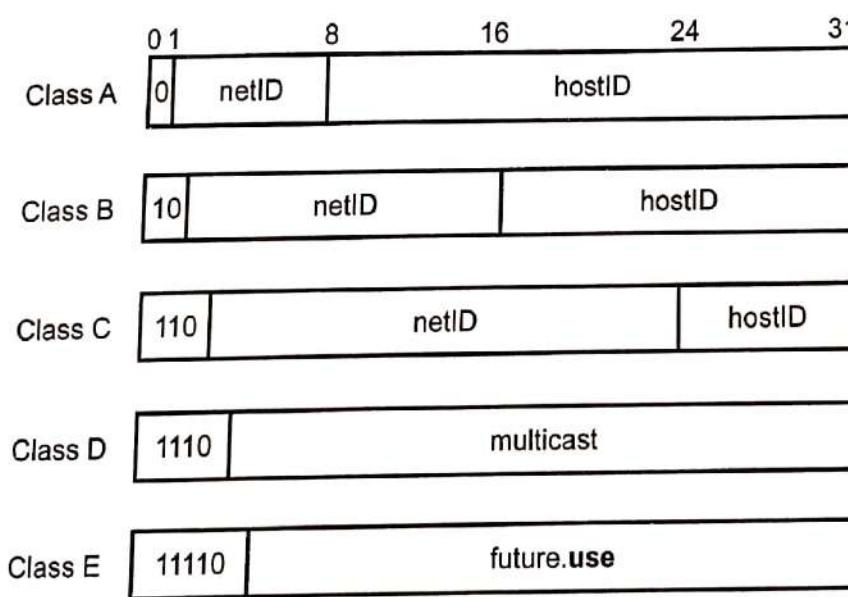

Fig. 3.3.3 : IP address classes with net ID and host ID
- IP address is divided into five classes: A, B, C, D, and E. Fig. 3.3.3 shows IP address classes with net ID and host ID.